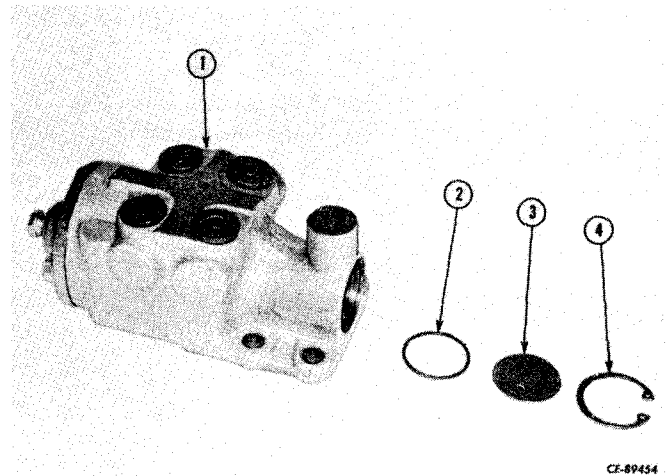

Figure 8-27
Install new "O" ring (2, Fig. 8-27) and end plate (3) in housing (1). Using a snap ring pliers, install snap ring (4).